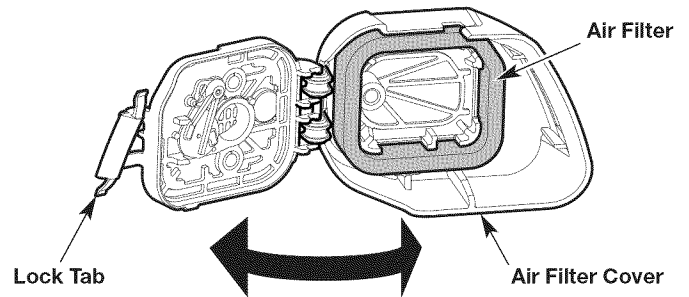

Fig. 17
1. Open the air filter cover: press in the lock tab and swing the air filter cover to the right (Fig. 17).
2. Remove the air filter from inside the air filter cover (Fig. 17).
6. Reinstall the air filter inside the air filter cover (Fig. 17).
7. Close the air filter cover: swing the air filter cover to the left and press it closed until the lock tab snaps into place (Fig. 17).